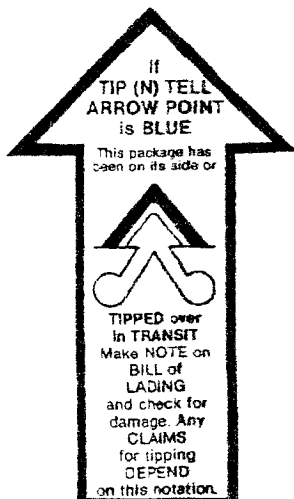

Fig. 1
The freezer has been operated and tested at the factory. Upon arrival the complete freezer must be thoroughly checked for any damage which may have occurred in transit. *NOTE: A Tip (N) Tell warning device is placed on each shipping carton at the factory. If the arrow is blue, the carton has been tipped in transit* (See Fig. 1)